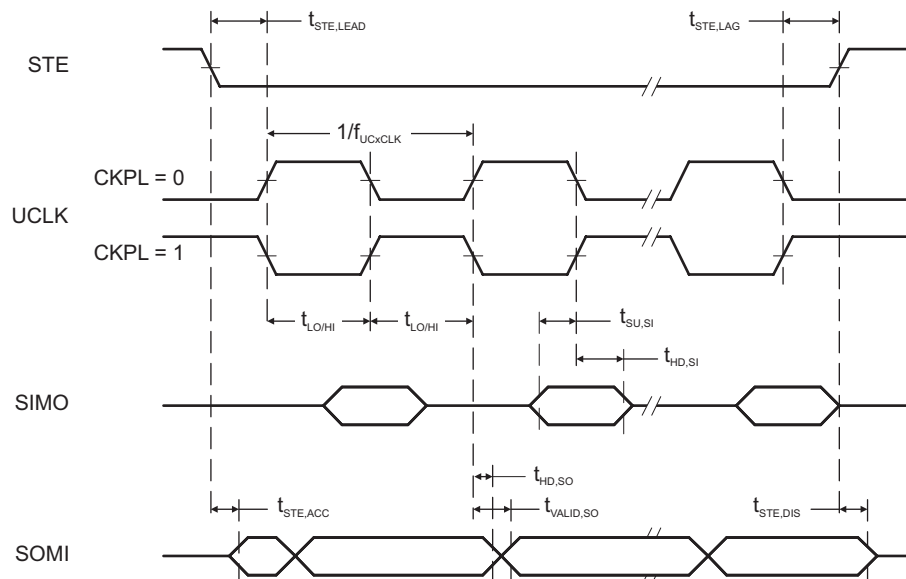

Figure 5-13. SPI Slave Mode, CKPH = 0
(see Figure 5-13 and Figure 5-14)
- (2) Specifies the time to drive the next valid data to the SOMI output after the output changing UCLK clock edge. See the timing diagrams in Figure 5-13 and Figure 5-14.
- (3) Specifies how long data on the SOMI output is valid after the output changing UCLK clock edge. See the timing diagrams in Figure 5-13 and Figure 5-14.